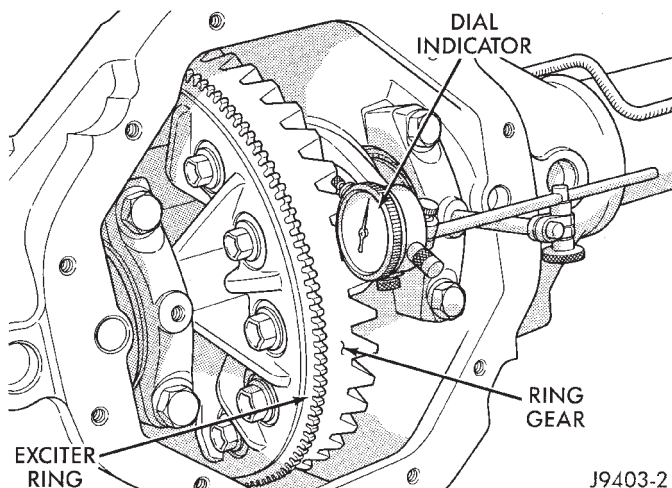

Fig. 59 Ring Gear Backlash Measurement
(2) Install dial indicator and position the plunger against the drive side of a ring gear tooth (Fig. 59). Measure the backlash at 4 positions (90 degrees apart) around the ring gear. Locate and mark the area of minimum backlash.
(3) Rotate the ring gear to the position of the least backlash. Mark the gear so that all future backlash measurements will be taken with the same gear teeth meshed.